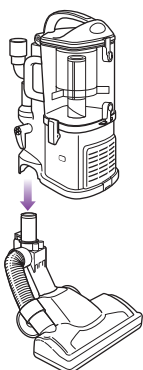

Fig. 6
- 2 Align the tube of the floor nozzle with the tube on the detachable canister and lower until you hear the two pieces click into place. (Fig. 6)